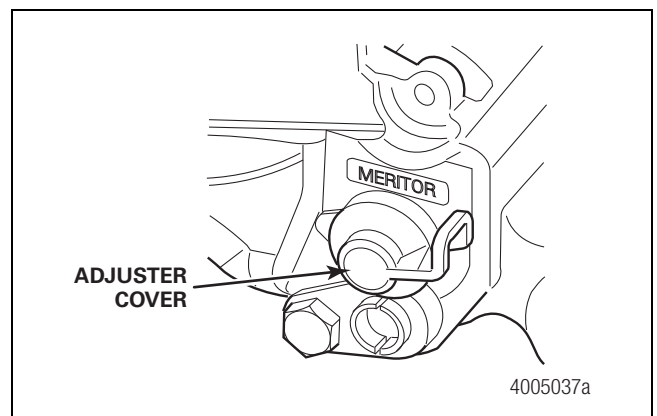

Figure 5.10
1. Remove the adjuster cover from the caliper assembly. Figure 5.10.